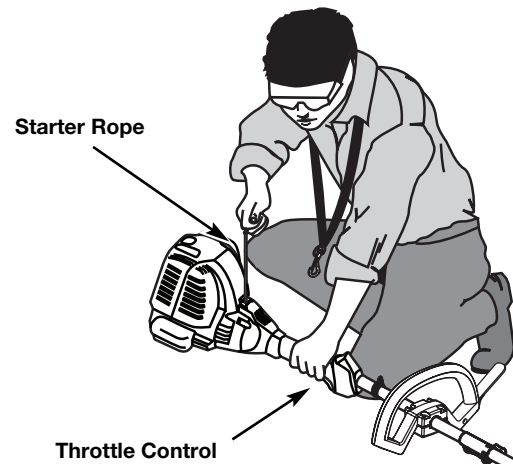

Fig. 21
**WARNING:** Avoid accidental starting. Make sure you are in the starting position when pulling the starter rope (Fig. 21). To avoid serious injury, the operator and unit must be in a stable position while starting. To avoid serious personal injury, ensure any Add-On being used is installed correctly and secure before starting the unit.
6. Crouch in the starting position (Fig. 21). Press the throttle lockout in and squeeze the throttle control lever. Pull the starter rope briskly 5 times.